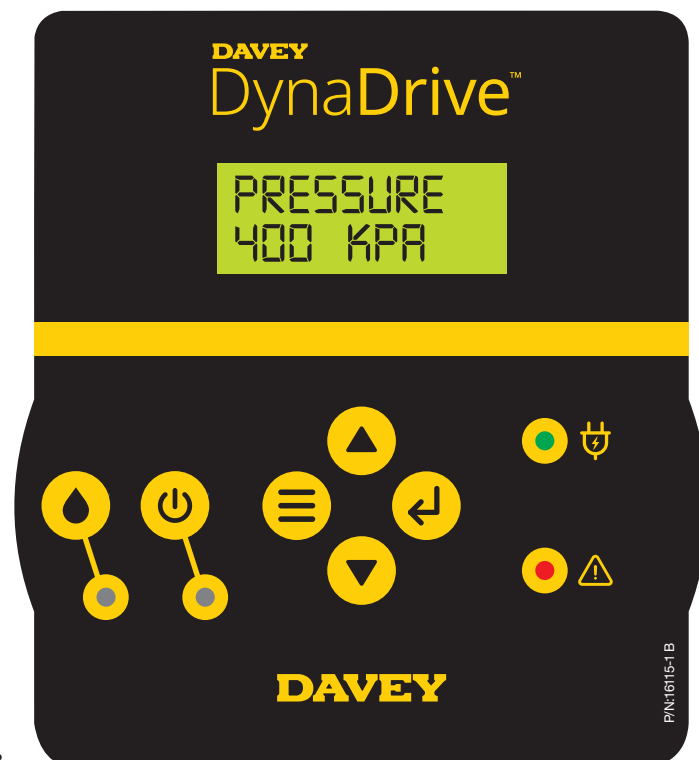

Figure 7.8
- Once the motor has slowed to a stop, press and hold the  **Menu button** and  **Enter button** for ~ 5 seconds. The display will change to show your current set pressure, see figure 7.8;